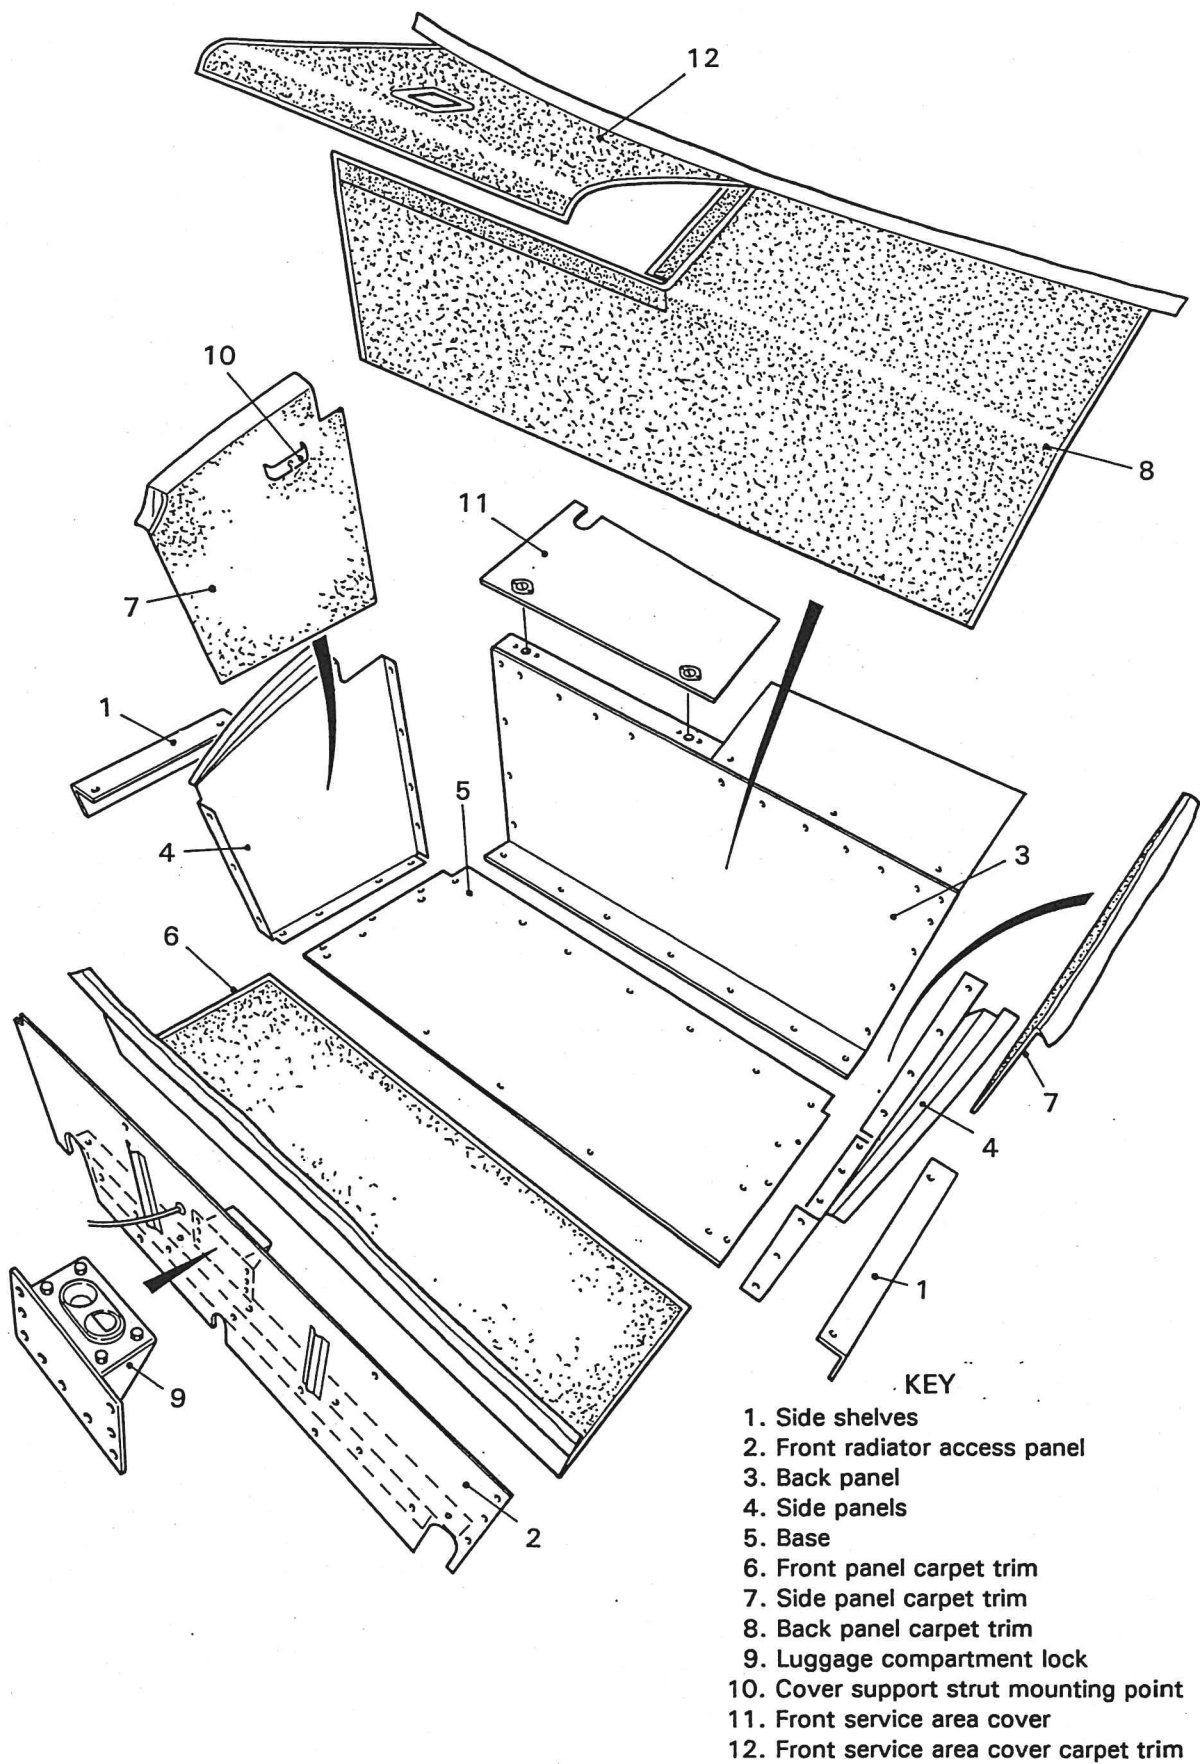

Fig. 6 Luggage Compartment Trim (Right-hand Drive Car Shown)
20. Refer to Fig. 6. Take the pre-cut carpet pieces and glue the side pieces (7) in place leaving the top leather edges free of glue.
21. Fit the back panel carpet (8) and glue in place, again leaving the leather top edge free of glue. Part of the back panel carpet is hinged on the top leather trim and is held in place by Velcro. This forms the access panel to the master cylinders for brakes and clutch and a notice indicating the position of the cylinders is fitted near the flap. Under the flap is an aluminium panel secured by two Dzus fasteners and this has to be removed to access the master cylinders.
22. The base and front panel carpet (6) is all one piece and is glued in place last.